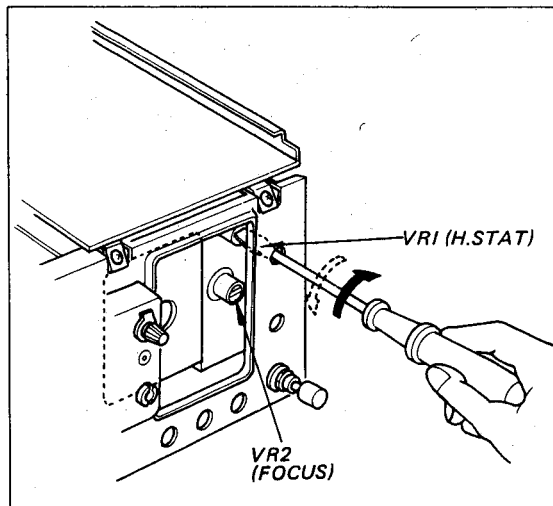

Fig. 3-9. H.STAT VR adjustment
- (1) Adjust VR1 (H. STAT) to converge the dots horizontally at center of the screen as shown in Fig. 3-9 and Fig. 3-10. If this does not correct the convergence, proceed to Step (2).